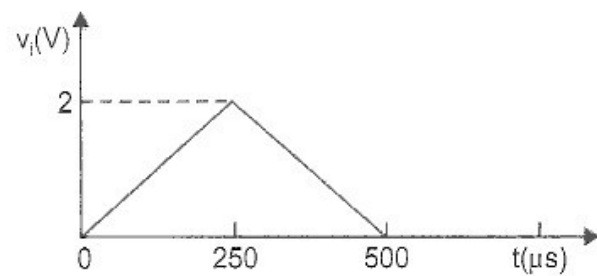

Fig. P. 4.9
- 4.9. The input  $v_i$  to a differentiator of Fig. 4.21 (a) is shown in Fig. P. 4.9. Find the output  $v_o$  if  $R_f = 2 \text{ k}\Omega$  and  $C_1 = 0.1 \text{ }\mu\text{F}$ .